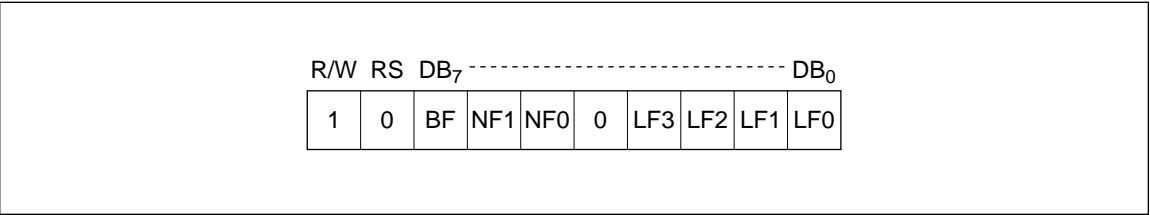

Figure 5 Status Register
The status register (figure 5) includes the busy flag (BF), display line bits (NF1/0), and display raster-row bits (LF0 to LF3). If BF is 1, an instruction is being executed, and another instruction will not be accepted during this time. Any attempt to write data to a register at this time is ignored.